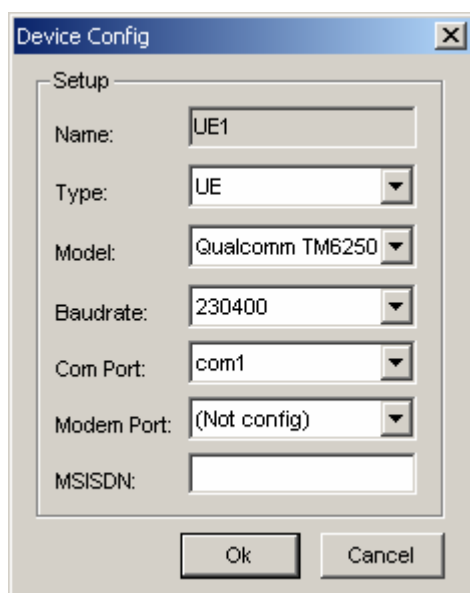

Figure 2-2 Device Config dialog box
The system displays the **Device Config** dialog box, as shown in Figure 2-2.
- 9) Set as shown in Figure 2-2 and click **OK**.